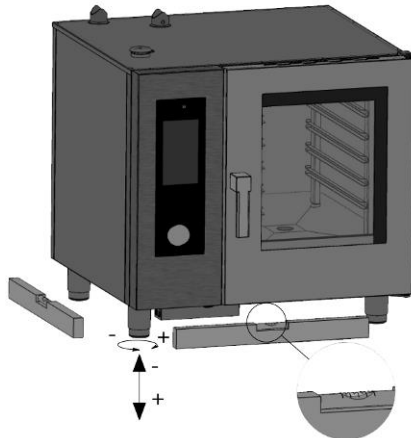

Fig. 2
- The adjustable feet are enclosed to the device and must be screwed under the device. The correct flatness of the device ensures a smooth operation. This flatness is obtained by adjusting the feet and verification by a spirit level. It is sufficient, to screw them in or screw out to change their settings. (Fig. 2).